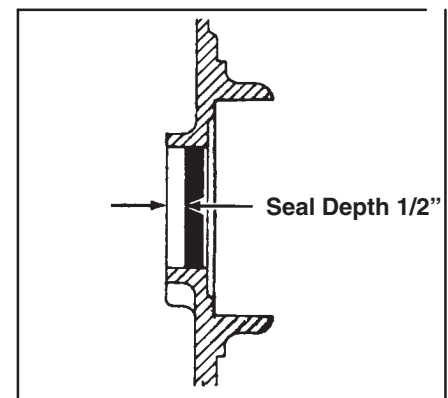

Fig. 58 Front Seal
- d. Install front seal to a depth of 1/2" from outer edge of bearing plate (Fig. 58).